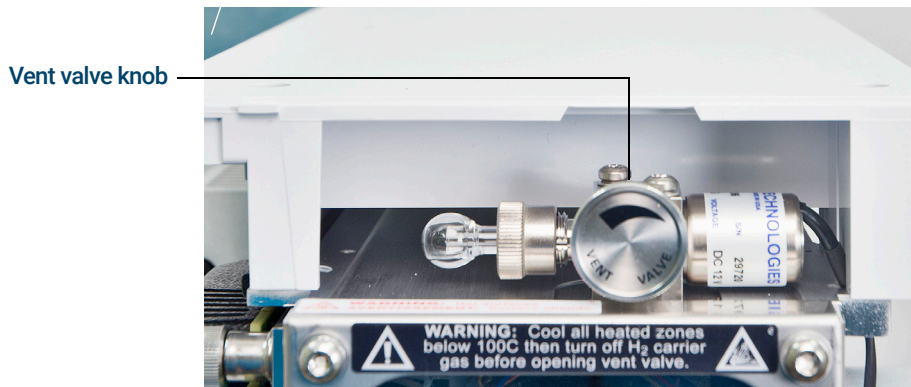

Figure 46 Vent valve knob
- 8 When prompted, turn the vent valve knob counterclockwise *only* 3/4 turns or until you hear the hissing sound of air flowing into the analyzer chamber. (See Figure 46.)